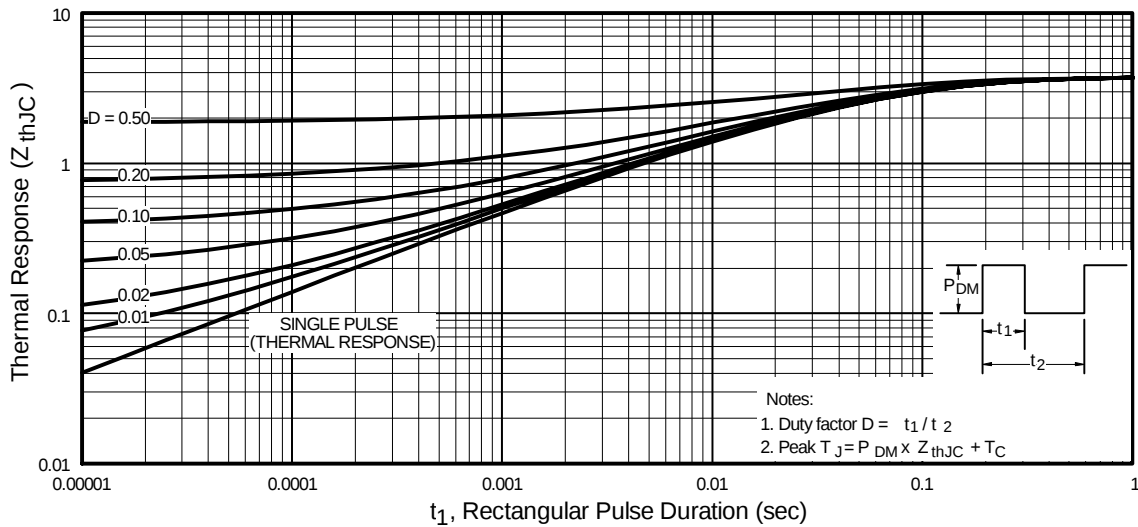

Fig 11. Maximum Effective Transient Thermal Impedance, Junction-to-Case
- ① Repetitive rating; pulse width limited by max. junction temperature. (See fig. 11)
② Starting $T_J = 25^\circ\text{C}$, $L = 3.1\text{mH}$